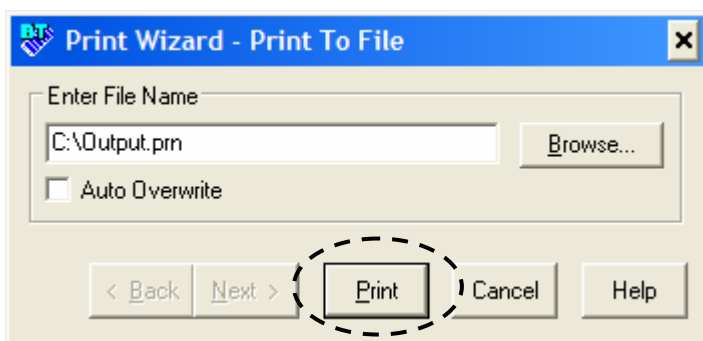

fig. 4 Naming and saving a PRN file.
3. Click *Yes* when you are satisfied with your adjustment (**fig. 4**).
(fig. 4)
10. Click the **Yes** button when you are satisfied with your adjustment (fig. 4).
6) Type in a name for the PRN file. You can also specify the location of the PRN file by clicking the **Browse** button. Click the **Print** button as shown on fig. 4.